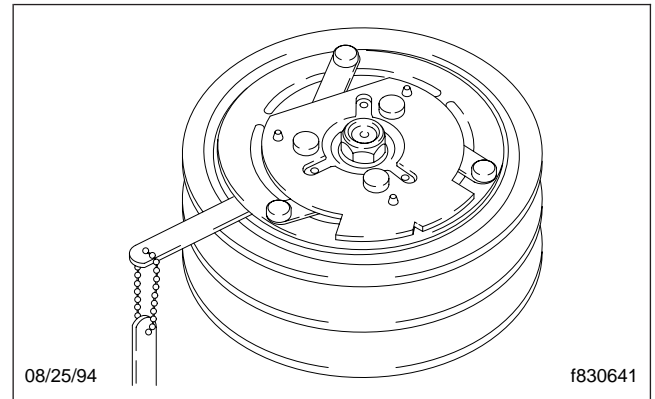

Fig. 1, Drive Plate Clearance Inspection (Sanden compressor shown)
4. On a Sanden refrigerant compressor, use a feeler gauge to check the drive plate clutch clearance. It should be 0.016 to 0.03 inch (0.4 to 0.8 mm). See **Fig. 1**. If the drive plate clutch requires adjustment, see **Group 83** of the *Recreational Vehicle Chassis Workshop Manual*.